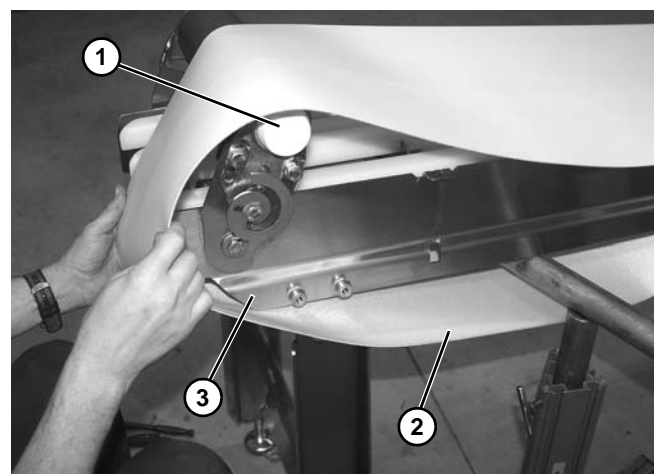

Figure 21
3. Rotate idler end (Figure 21, item 1) upward as shown.
4. Position the belt (Figure 21, item 2) onto the conveyor (Figure 21, item 3).